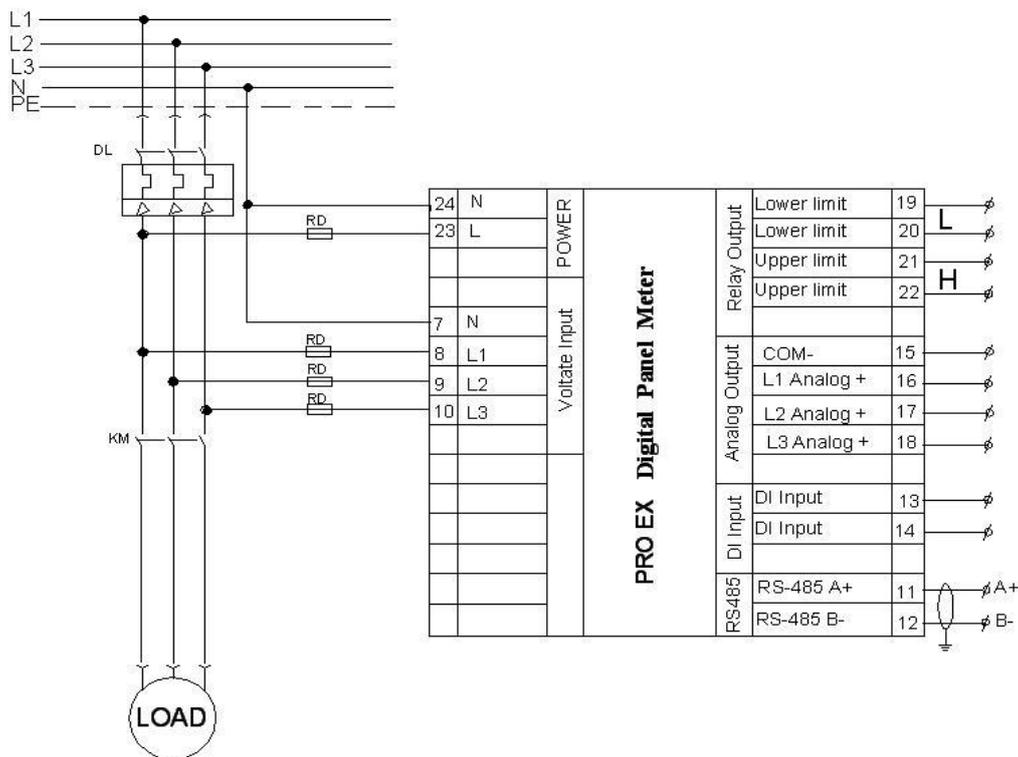

Fig. 2 PRO EX U53 3P4W
1.4.10.5 Analog Output Setting (Details of output ports, please see Fig. 2)